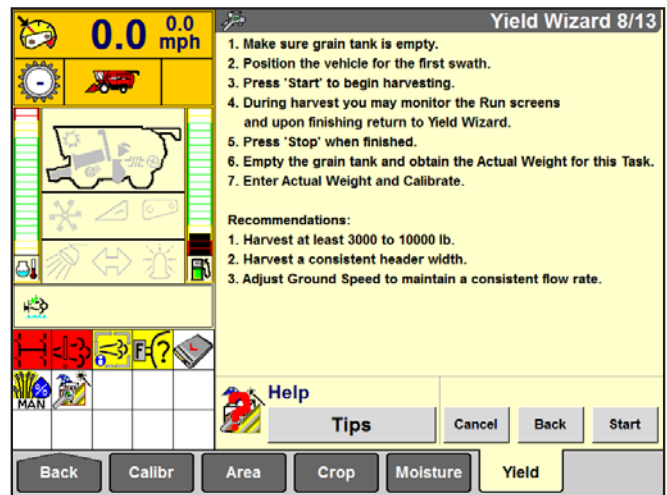

Figure 25.2
- Press “Start” and follow on-screen instructions (see figure 25.2)